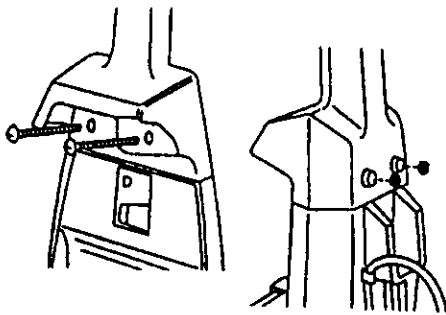

Fig. 6
1. Remove two bolts and slide handle off (Fig. 6)